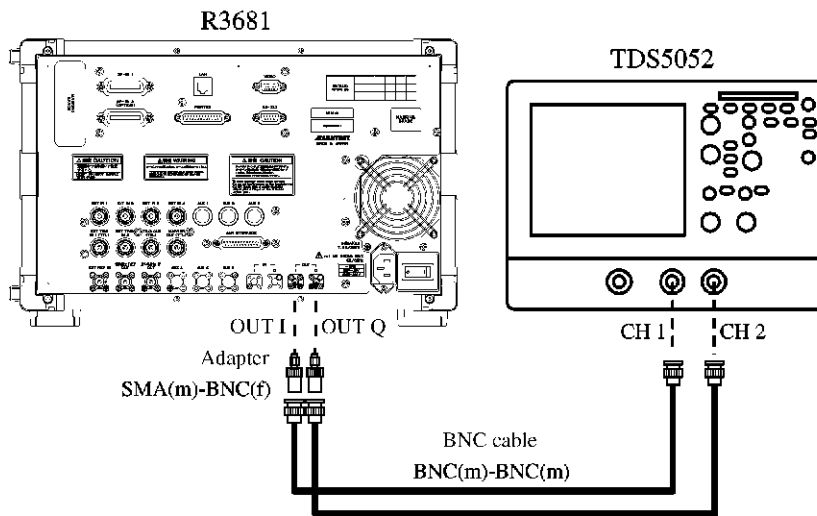

Figure 8-1 Signal Output Accuracy Test Connection Diagram
2. Connect the instruments as shown in Figure 8-1.